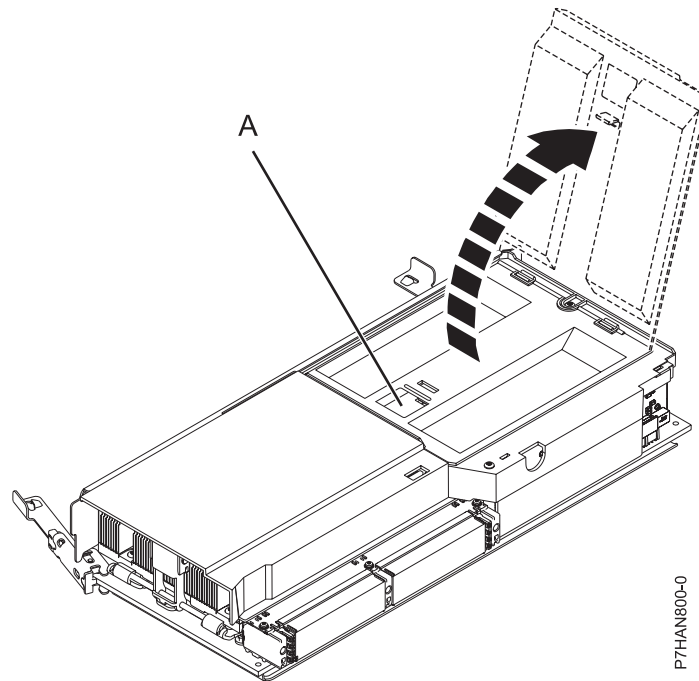

Figure 4. Removing a memory module
10. Unlock the memory module cover by pushing the locking tab **(A)** down, as shown in Figure 4. Lift the cover up to access the memory modules.